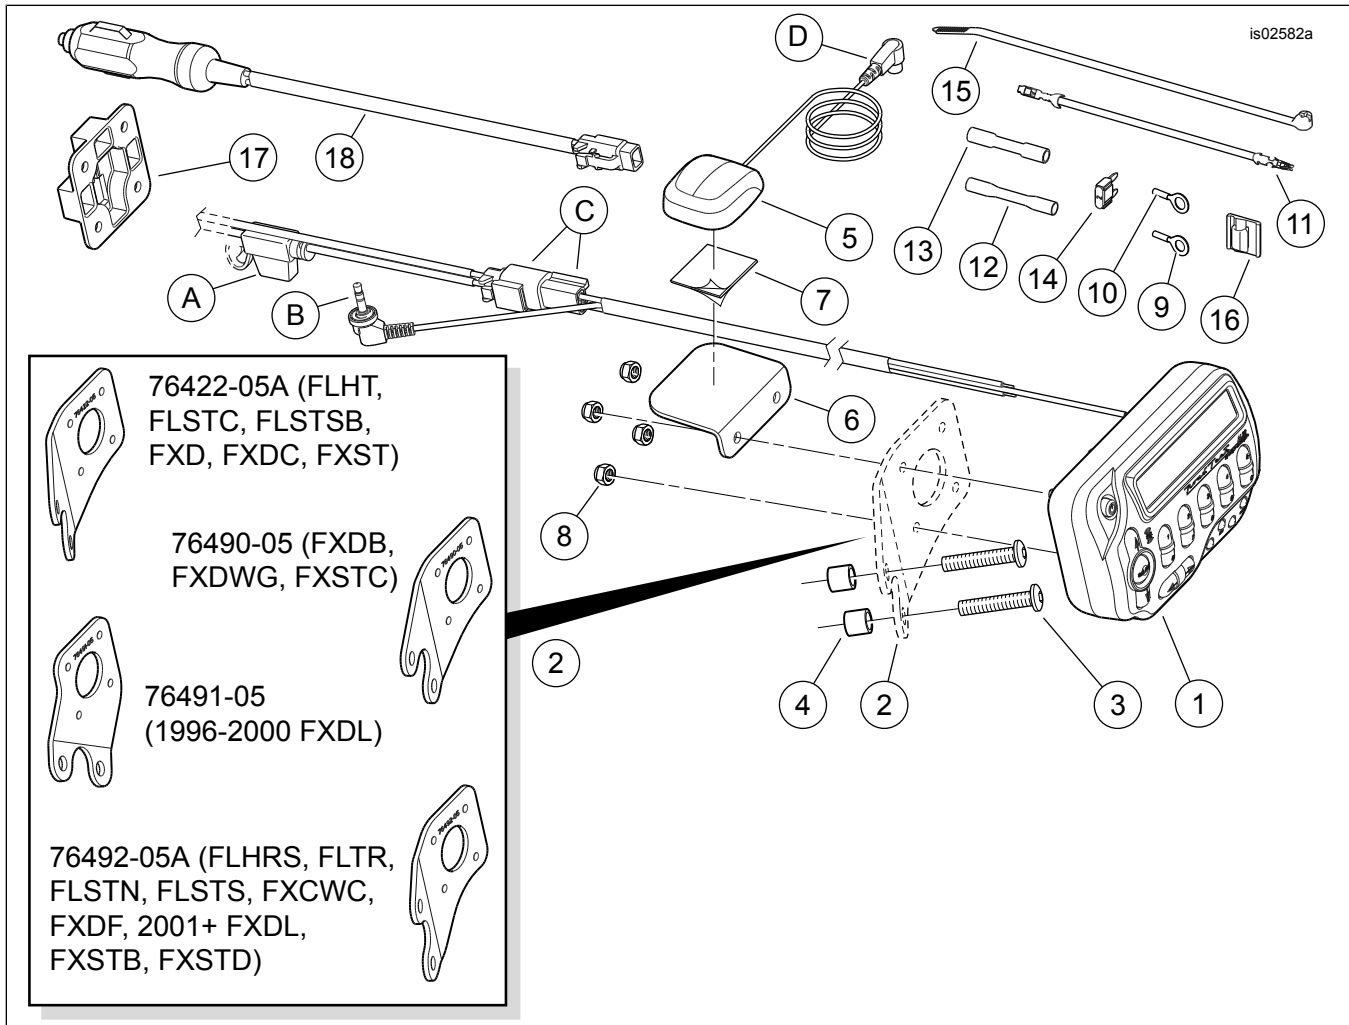

Figure 12. Service Parts, Road Tech XM Satellite Radio Kit
6. See Figure 12. Cut the excess length from the orange/white satellite receiver harness wire. Using the red sealed splice connector (12) from the kit, splice that wire to the adapter wire installed in Step 4.
7. Install the 2A fuse (14) from the kit into the fuse cavity marked "P&A IGN", "2A MAX" to complete the circuit.
7. Install the 2A fuse (14) from the kit into fuse cavity 1A-1B (4) to complete the circuit.